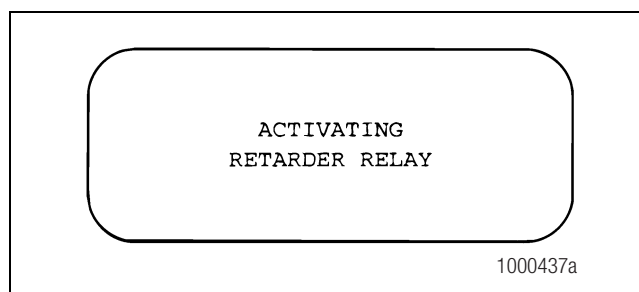

Figure 3.19
- Verifies the relay is functioning correctly. A click should be heard. Figure 3.19.